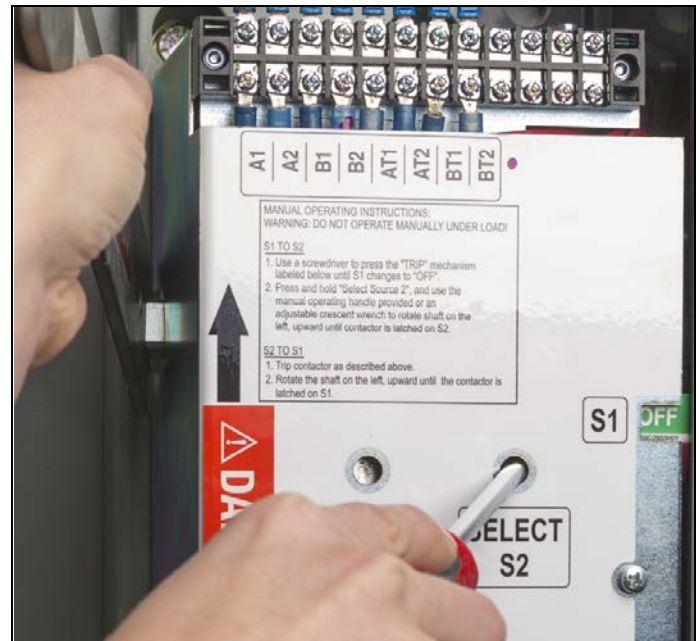

Figure 13. Select Button on Contactor Operating Mechanism.
9. Depress the "select" button located on the operating mechanism of the contactor and rotate the lever up keeping the "select" button depressed to go to Source 2 (Figure 13).